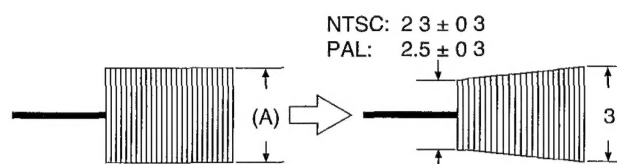
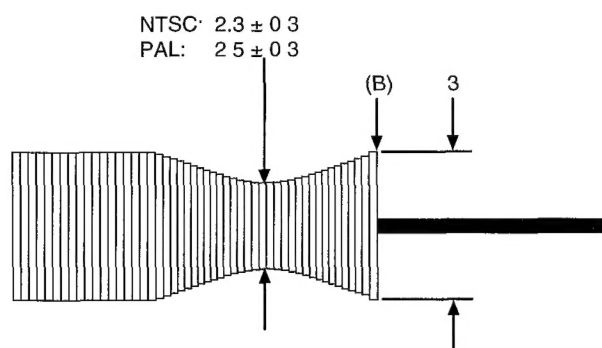

Fig. 4-1
Fig. 4-2
<p>Adjustment procedure</p> <p>Caution: Before performing this adjustment, refer to Fig. 6-1 and modify the ATF-R jig.</p> <ol style="list-style-type: none"> Load the alignment tape which has been completely rewound, and holding down the playback button, supply a DC power source (7.2 V). Set the power switch of the camcorder to OFF at this time. Connect an oscilloscope to TP3 on the ATF-R jig. Syncronise the oscilloscope with TP1(SW25/30) on the ATF-R jig. Set the oscilloscope to (+) slope. Press SW2 on the ATF-R jig and hold it, then perform the following steps. Adjust the voltage level control of the oscilloscope so that portion (A) of the waveform is set to 4 graduations. Set SW1 on the ATF-R jig to ON. Turn RT1 on the ATF-R jig counterclockwise so that portion (A) of the waveform is set to 3 graduations. Adjust the height of the supply guide roller so the minimum amplitude of the waveform is set to NTSC: 2.3 ± 0.3 / PAL: 2.5 ± 0.3 graduations. (See Fig. 4-1) If this cannot be confirmed, adjust the height of the supply guide roller, referring to "3-3. Supply/ Take-up Guide Roller Height Adjustment". Set the oscilloscope to (-) slope. Turn RT1 on the ATF-R jig counterclockwise so the voltage at point (C) on the ATF-R jig is $1.8 \pm 0.1V$. Then check that point (B) of the waveform is set to 3 graduation. Check that the minimum amplitude of the waveform is set to NTSC: 2.3 ± 0.3 / PAL: 2.5 ± 0.3 graduations. (See Fig. 4-2) <p>If this cannot be confirmed, adjust the height of the take-up guide roller, referring to "3-3. Supply/ Take-up Guide Roller Height Adjustment".</p> <ol style="list-style-type: none"> Perform the following electrical adjustments. <ul style="list-style-type: none"> Head switching point adjustment Record luminance/chroma level adjustment <p>Caution: After adjustment is complete, be sure to reverse the modification to ATF-R jig.</p>